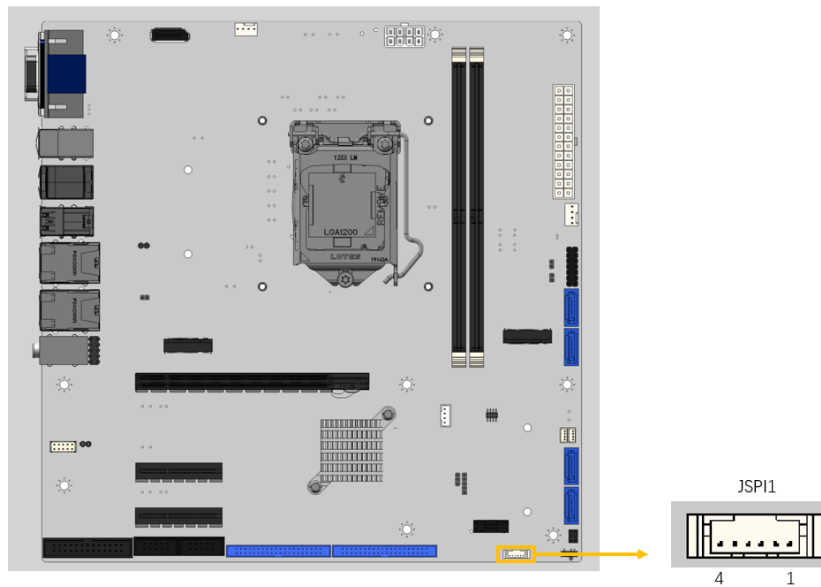

Figure 3-32: Flash SPI ROM Connector Location
- CN Location:** See **Figure 3-32**